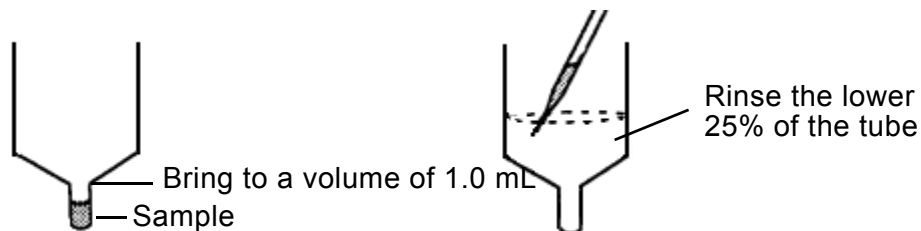

Figure 27. Rinsing the Sample Tube
- 6 Take the entire 1mL sample into the Pasteur pipette and rinse the lower 25% of the TurboVap tube (i.e. 2 inches above the cone shape on the cylinder wall) two to three times as shown in Figure 27 on page 43.